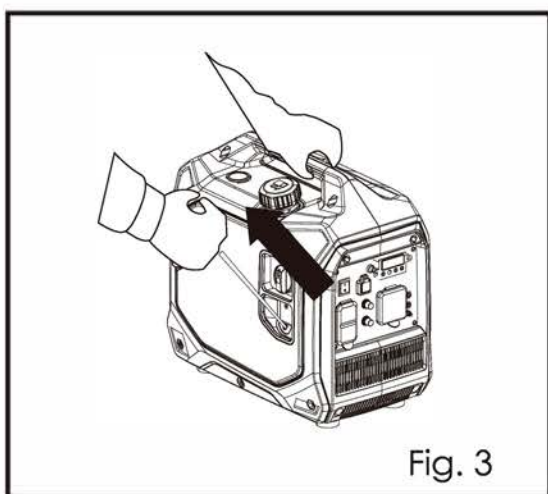

Fig. 3
3. (Manual start) Gently pull the recoil start handle (Fig. 3) until resistance is felt then pull it briskly to start the engine. Return the handle to the generator housing by hand. Do not allow it whip back against the housing as damage may occur.
- Allow the filter element to dry thoroughly. Once dry, apply one drop of engine oil to the filter element. Squeeze the element (Fig. 3) to distribute the oil throughout.